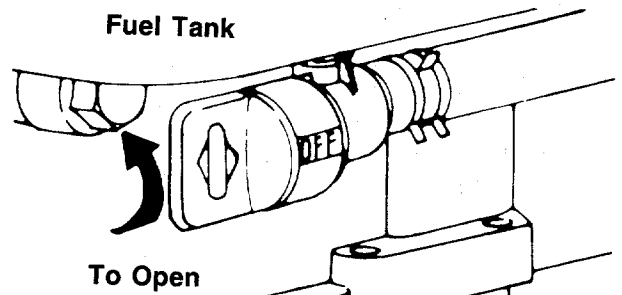

FIGURE 21.
4. The fuel shut-off valve is located beneath the fuel tank. The fuel shut-off valve should be in the open position. See figure 21. Open fuel shut-off valve if it is closed.